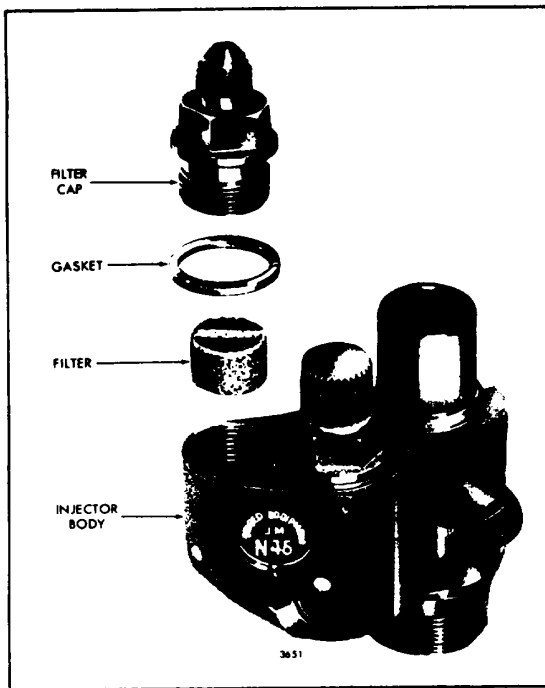

Fig. 35. - Details of Injector Filter and Cap Showing Their Location Relative to Injector Body
1. Insert a new filter, dimple end down, slotted end up, in each of the fuel cavities in the top of the injector body (Fig. 35.).